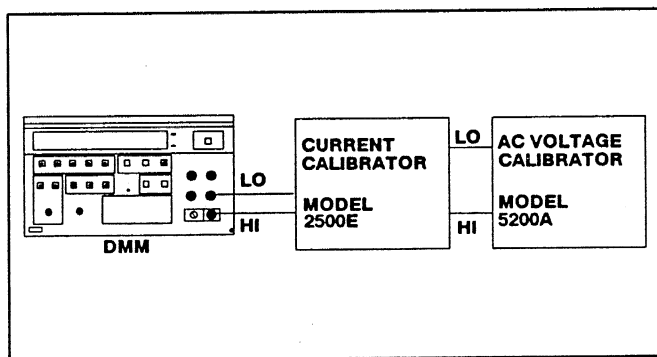

Fig. 2-5. Connections for TRMS AC Current Check.
- b. Connect the DMM to the current calibrator and the AC voltage calibrator as shown in Fig. 2-5.